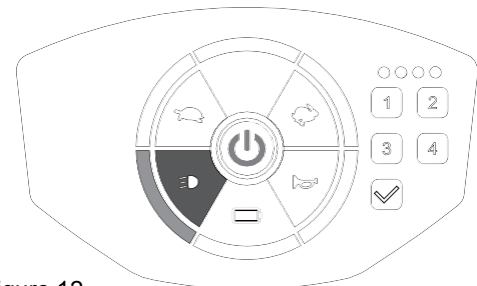

Figure 12
- Switch off by pressing the button again. The [] light will be off on the panel. (Figure 12)